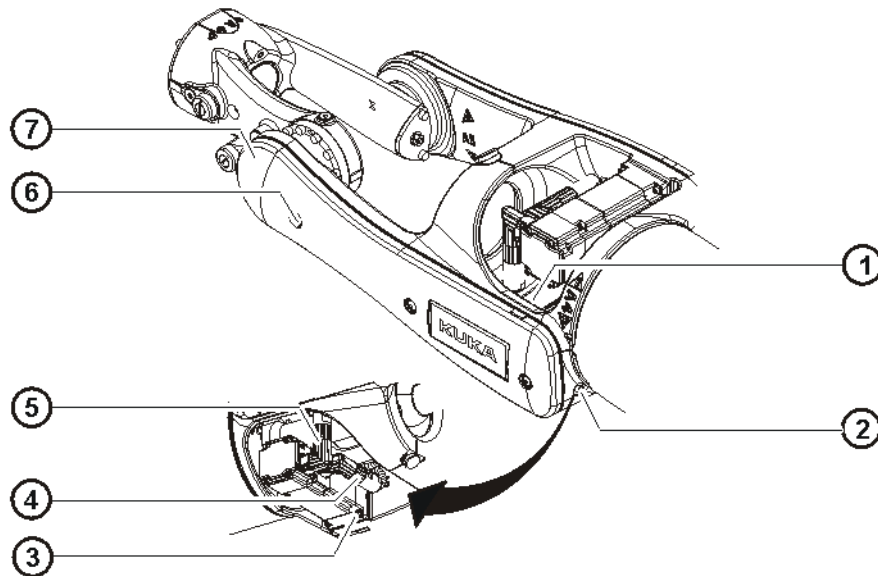

Fig. 11-21: Removal of motor A5
1. Slacken Allen screw (>>> Fig. 11-21) and nut and unscrew them by a few turns.